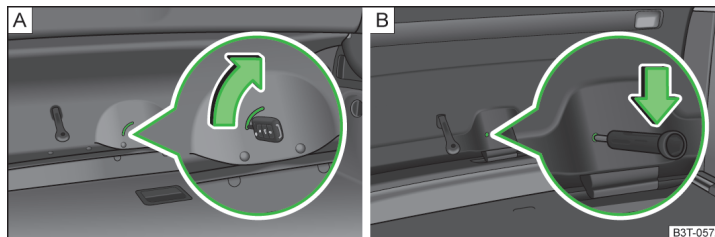

Fig. 191 Emergency unlocking: Superb / Superb Combi
- Insert the vehicle key into the slot in the trim panel as far as the stop » Fig. 191 - **A**.
- Insert a screwdriver or similar tool into the opening of the trim as far as it goes » Fig. 191 - B.